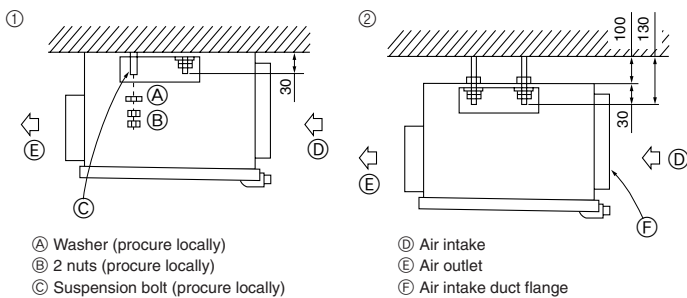

Fig. 3-4
3.4. Unit suspension procedures (Fig. 3-4)
Suspend the main unit as shown in the Fig. 3-4.